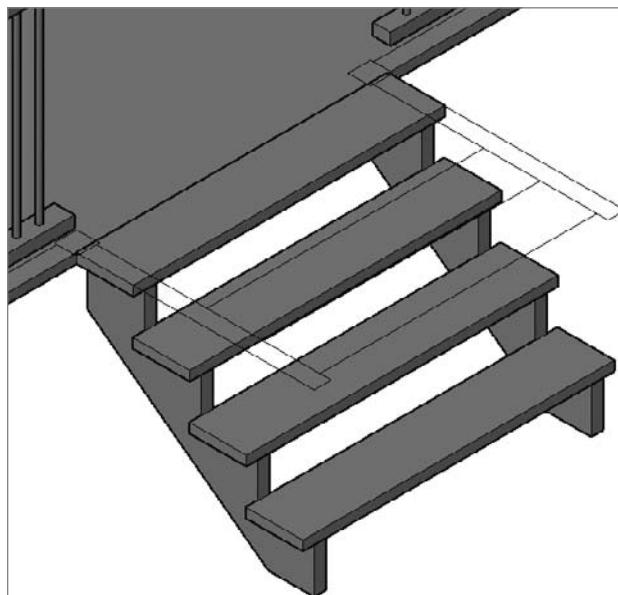

FIGURE 16.62 The completed steps
7. Copy or mirror the stringer to the opposite side of the steps. The completed steps should look like those shown in Figure 16.62.